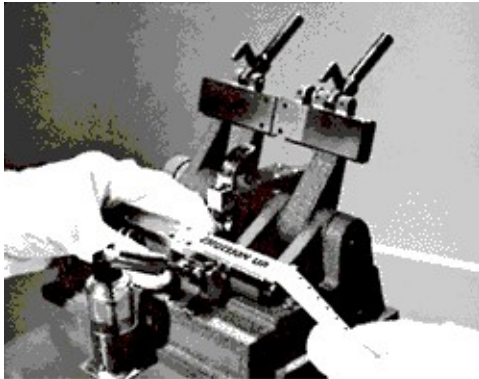

Figure 6
- With both upper blades raised to their highest positions, place the film in the right lower blade and register the next to the last sprocket hole on the back pilot pin (Fig. 6). Remember that we will be using the back pins in all our work. Both right and left pieces of film must be registered on the *back* pins to maintain proper alignment. The film goes into the splicer EMULSION side up and, if single perforated, the sprocket holes go AWAY from you. Note the lower blade positions in figure (6). There is a line here where right and left blades butt together. This will be the splice line and your reference point for registering the proper sprocket hole onto
Register next to the last sprocket hole on the pilot pin with your left hand. (Fig. 6). Use the tip of your gloved left index finger to secure film on the pin. Make sure that you touch the film only at the upper edge between the sprocket holes and outside the picture area.